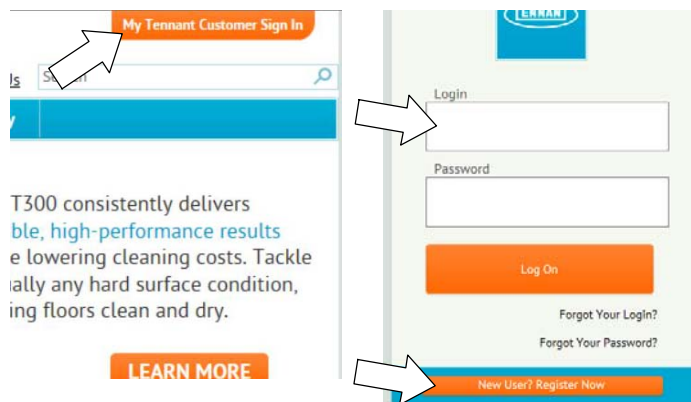

Fig. 21
1. Log in to the “My Tennant” website or register as a new user (Figure 21).